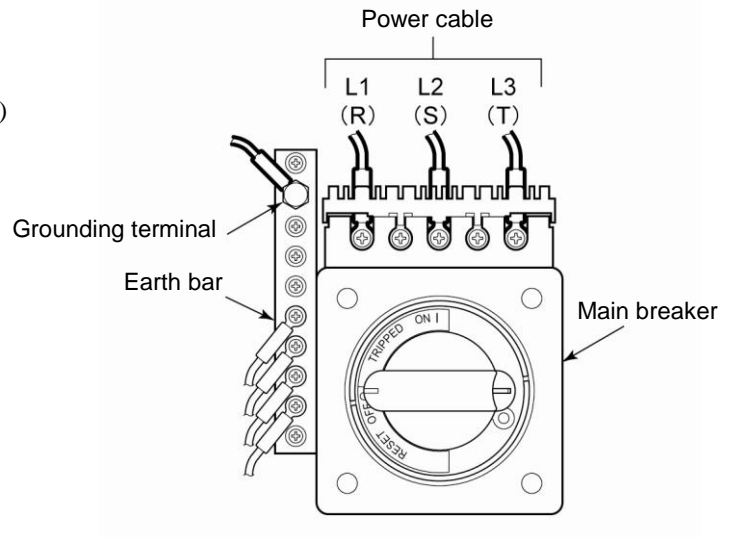

Figure 3-11 Connection of Power Cable and Grounding Terminal
- Secure the piping connector section with a pipe wrench, and provide proper tightening to the pipe. See Figure 3-11 on page 3-13.